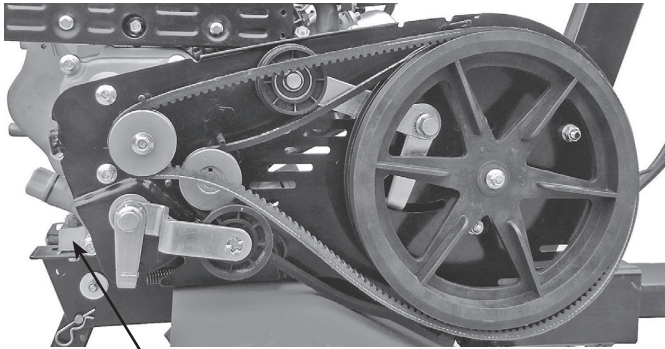

Figure 10
- If belt tension isn't in the normal tension range, it needs adjustment. Please loosen the engine's 4 mounting bolts (See Fig.10 10 and 11).